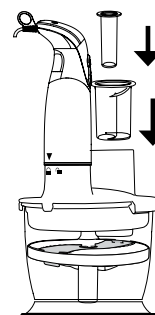

FIG. 3
3. Make sure that the lid is securely locked and the large food pusher and the small food pusher are in place, refer to Fig. 3.